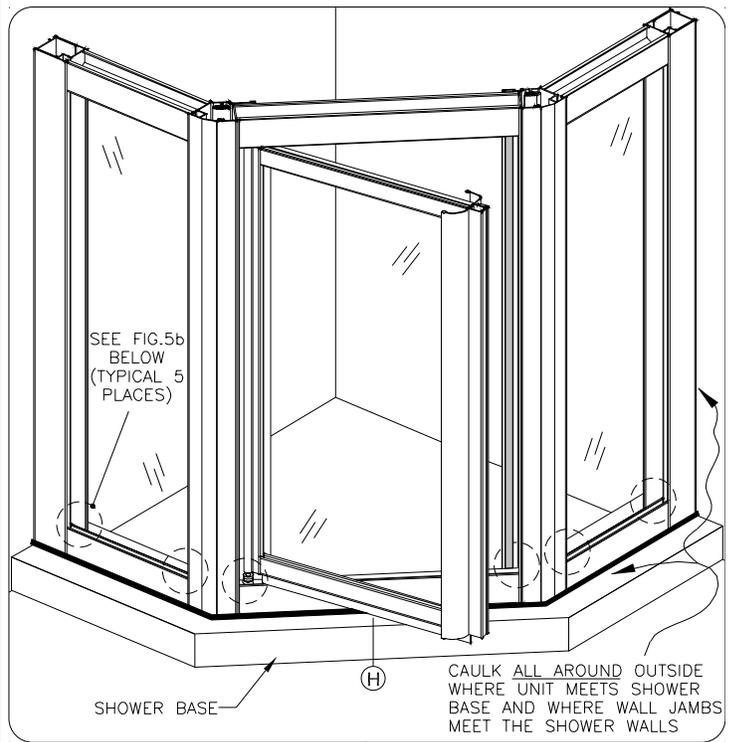
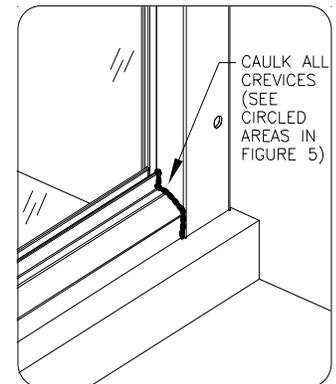

Fig. 5
Fig. 5b
First: Run a bead of clear mildew resistant caulking around the outside of shower enclosure where shower unit meets the shower base (see figures 5 and 5a).
Second: From inside the shower unit, caulk the six (6) circled areas indicated in figure 5 above (caulk the crevice where the horizontal member meets the vertical member as shown in fig 5b).